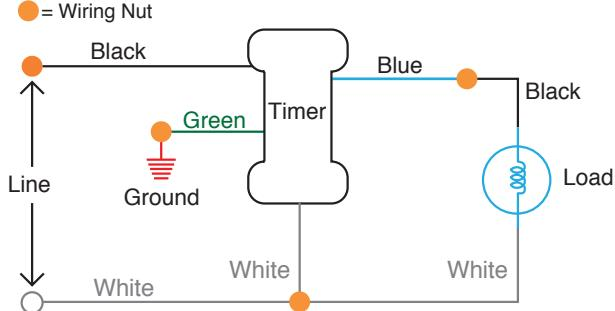

Figure 1
- Connect the wires of the timer to the wall box as shown in **Figure 1** and **Figure 2** using the wire nuts provided.